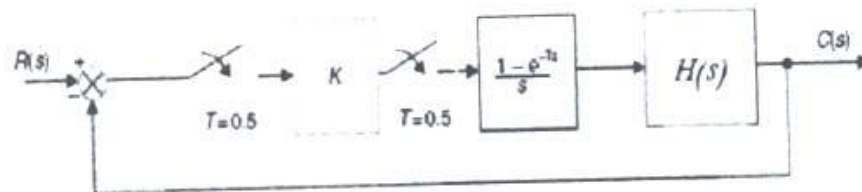

Figure 2
- [3] Given the block diagram of a sampled data system as shown in figure 2, where the sampling period $T = 0.5$ second and $H(s) = \frac{e^{-sT}}{1+2.24s}$: